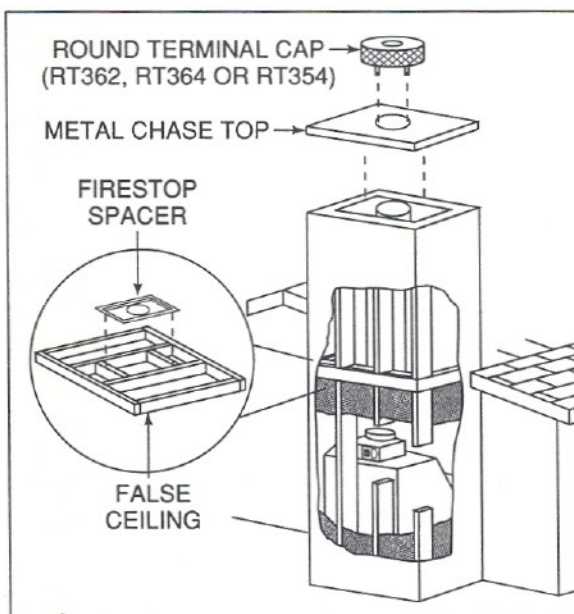

Figure 23
5. In cold climates, the walls of the chase should be insulated to the level of the false ceiling as shown in Figure 23. This will help prevent heat loss from the home around and through the fireplace.